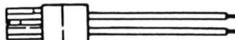

Figure 1
3. Cut approximately 2" behind the connector of the old part and strip approximately ¼" insulation from the wires of your old connector. See Figure 1.